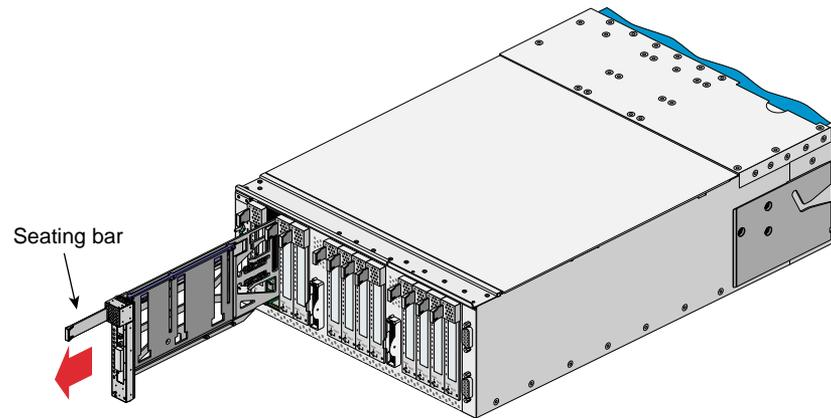

Figure 8 Removing a Card Carrier
2. Pull the seating bar on the card carrier straight out to extract it from a slot, as shown in Figure 8.